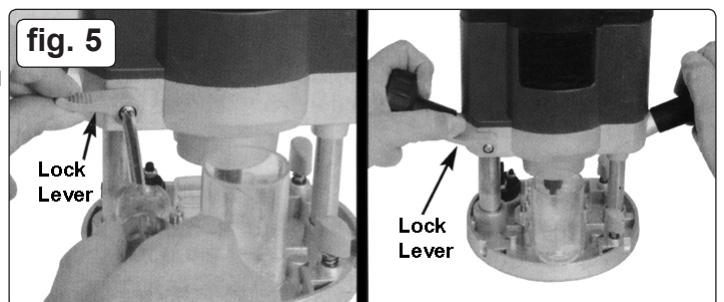
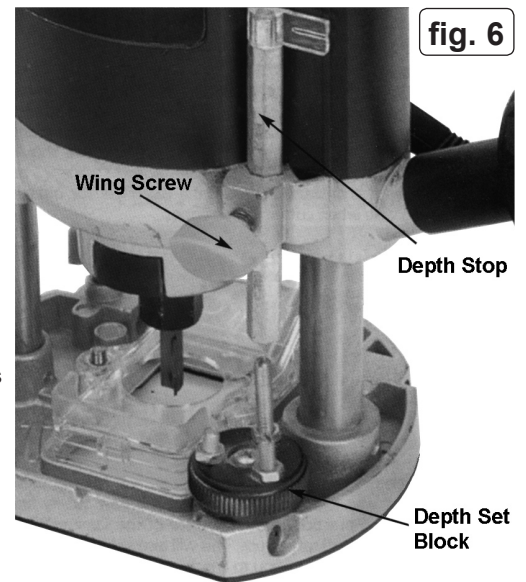

fig. 5
fig. 6
- The lock lever locks the router body at any given height and its position is adjustable to suit the user. To reposition the lever remove the retaining screw, pull the lever off the shaft, replace it at the desired angle and retain with the screw. See fig. 5.
- Stand the router on a flat surface and, with the router bit in place, slacken the depth stop wing screw (fig. 6) and the lock lever (fig. 5).
- Notes:** a) When routing, as soon as the bit has cut into the workpiece to the full cut depth the lock lever (fig. 5) must be firmly locked. If this is not done the depth of cut may well change as the router bit is moved through the workpiece.